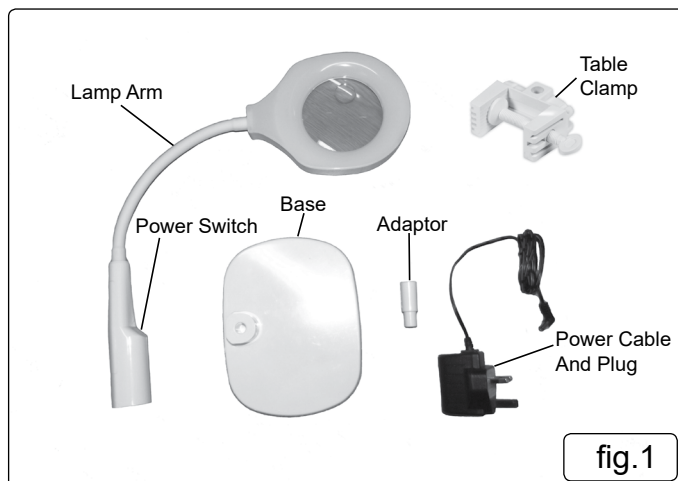

fig.1
- 4.1. Please check the box for all the parts. (fig.1)
- ✓ Make sure the light is unplugged while attaching it to the table. Fix the table clamp on a suitable table, the thickness required ≤44MM, put the adaptor (fig.1) onto the bottom of the lamp arm and insert it into the table clamp, rotate the lamp arm to the best position, connect the adaptor and turn on the electricity.